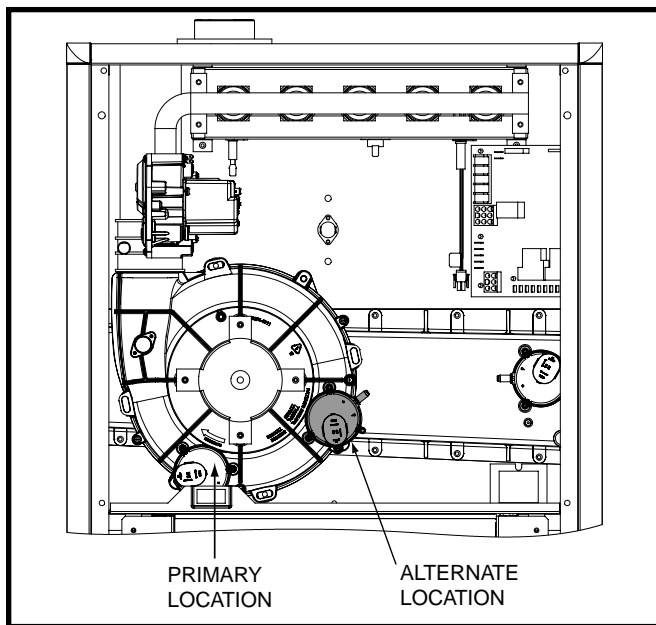

Figure 18. Alternate Pressure Switch Location
2. Label and disconnect the tubing and wires from the pressure switch (Figure 18).